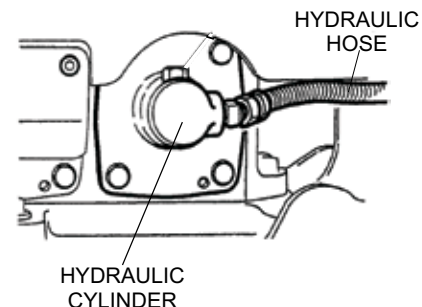

Figure 31. Hydraulic Oil Cylinder/Hose
1. Disconnect the hydraulic hose (Figure 31) connected to the hydraulic oil cylinder.